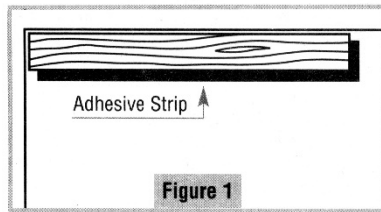

Figure 1
1. Lay the first row of planks along the wall starting in the left corner with the adhesive strips facing out away from the walls (Fig.1). Allow a 1/8" minimum space (or 1/4" optimum space) between the edge of the planks and the wall, base cabinets and all other vertical surfaces. Remove the paper liner from the adhesive strip at the end of the first plank and secure the end of the next plank by pressing down on the planks.